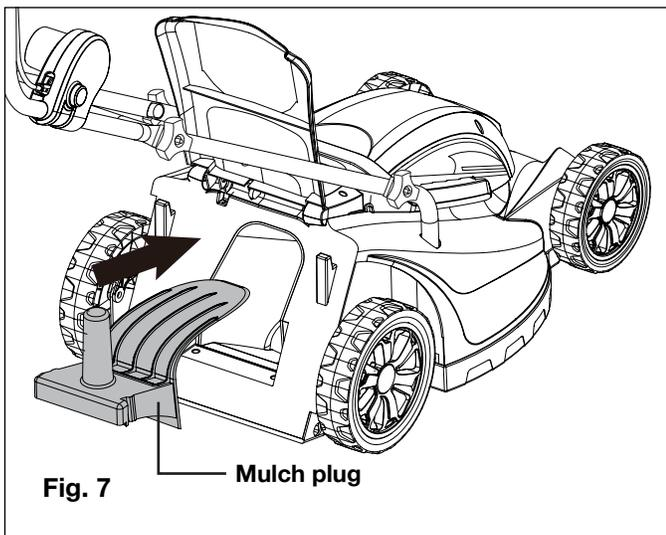

Fig. 7
- To convert your lawn mower to a mulching mower, lift up the bag cover and remove the collection bag. Insert the mulch plug (Fig. 7) and close the bag cover.